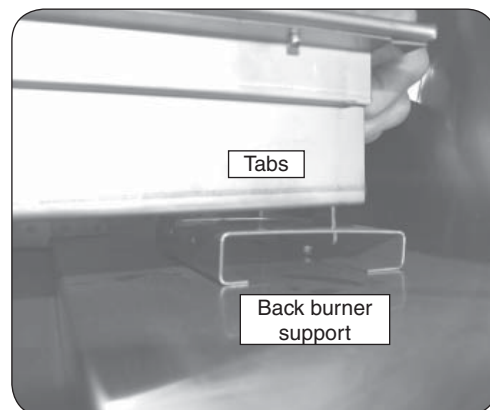
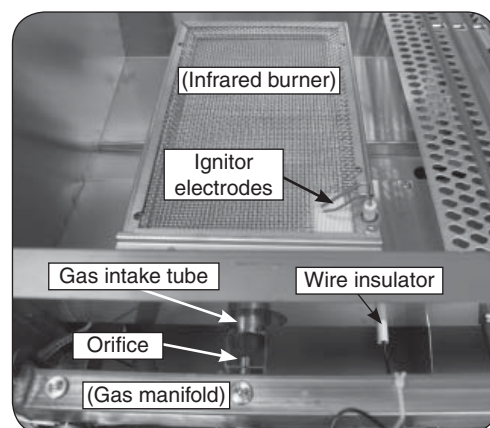

Fig. 3-3 Setting tabs into support
Fig. 3-4 Infrared burner installed
3. Position the new infrared burner gas inlet tube in the hole in the forward fire wall and over the orifice fitting, sliding it forward from behind the face frame, so the orifice is centered inside the burner gas tube. Set it gently onto the rear burner support, making sure the tabs on the back burner bottom each fit through their respective slots in the rear burner support. This is critical to the safe function of the grill. (See Fig. 3-3 and Fig. 3-4.)